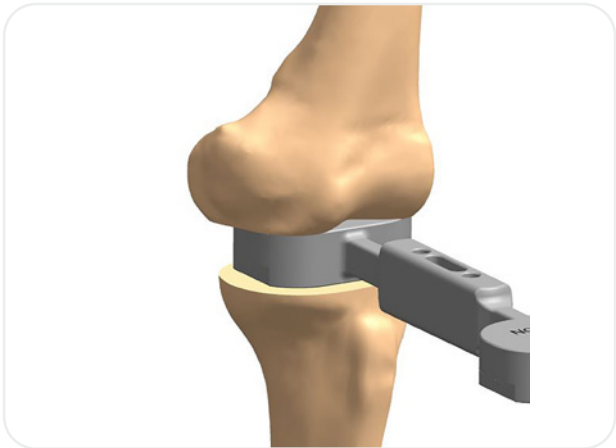

Figure 19
- 1. The 9mm end of the Extension Spacer Block should easily insert into the extension gap (**Figure 19**).